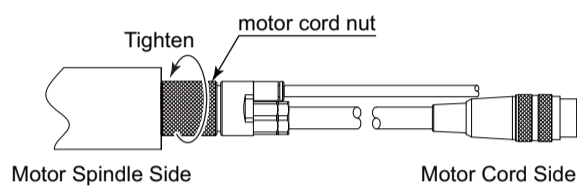

Fig 11
- Turn the motor cord nut clockwise to fasten according to Fig. 11.